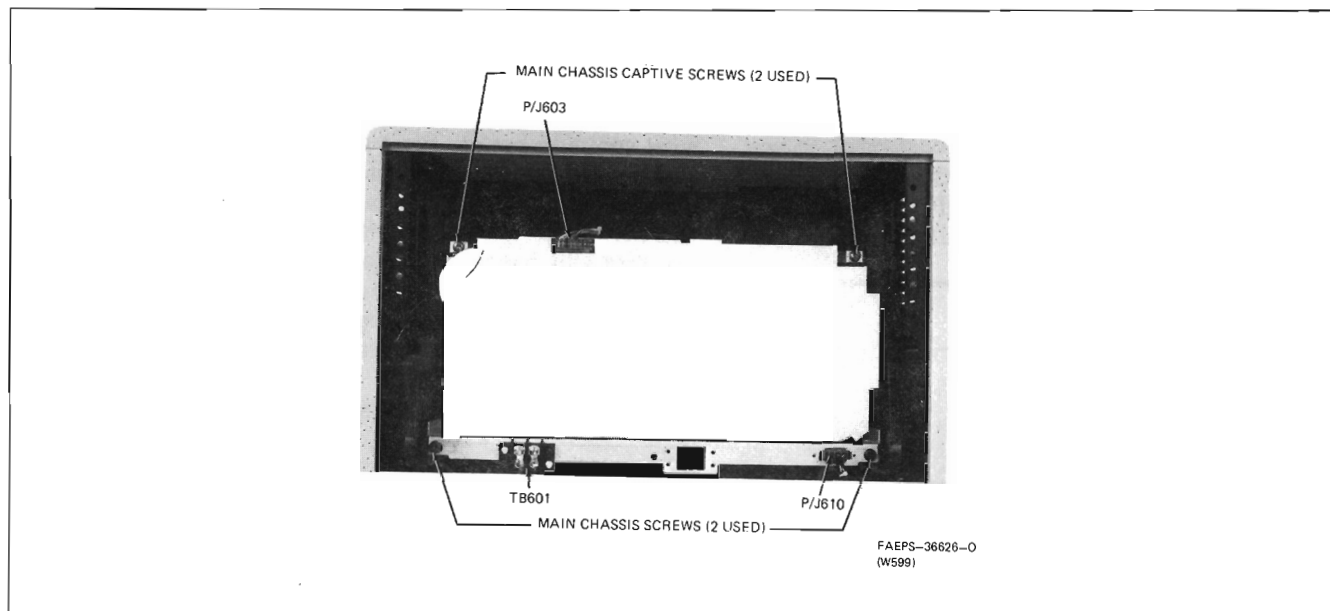

Figure 2. Power Supply Mounting Hardware and External Connections
Step 1. Refer to Figure 2. Disconnect P610 from J610 on the power supply chassis. Disconnect P603 from J603 on the battery charger circuit board. Remove the two wires from the + and - terminals of TB601 on the power supply chassis. Note the color coding of the wires and the polarity of the terminals. If necessary, tag the wires for ease of identification.
Step 2. Refer to Figure 2. Remove main chassis screws and loosen main chassis captive screws.